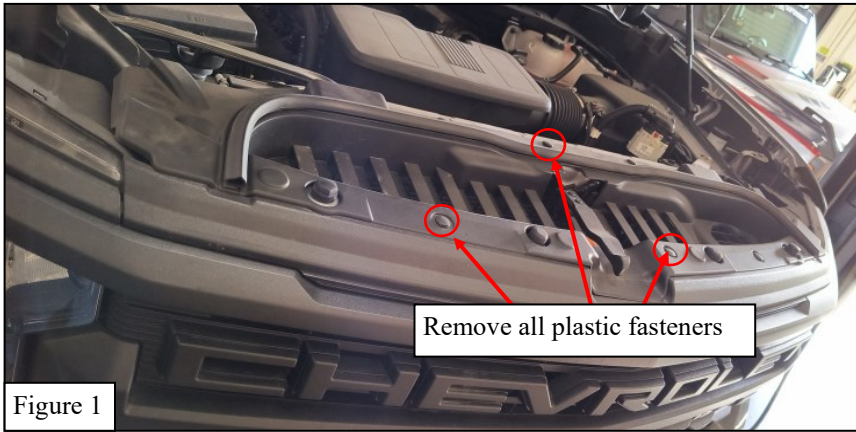

Figure 1
2. Begin by removing all plastic fasteners. See **Figure 1**.